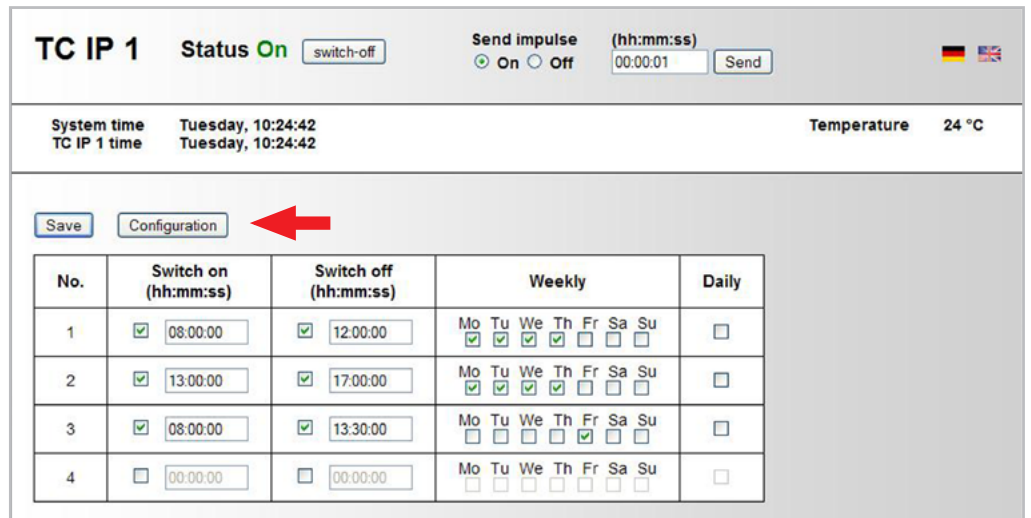
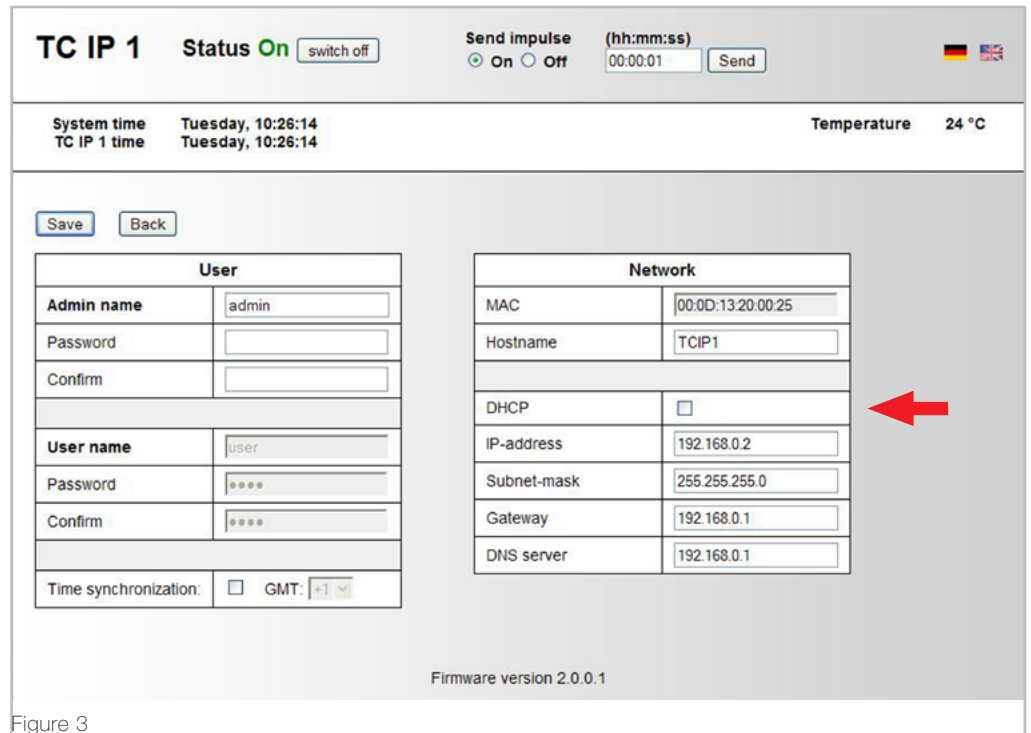

Figure 2
Figure 3
5. With the button „network configuration“ in the main menu (arrow, figure 2) you will access the system settings of TC IP 1 (figure 3).
5. With the button “network configuration” in the main menu (arrow, figure 2) you will access the system settings of TC IP 1 (figure 3).
7. Now activate the DHCP-server (arrow, figure 3).